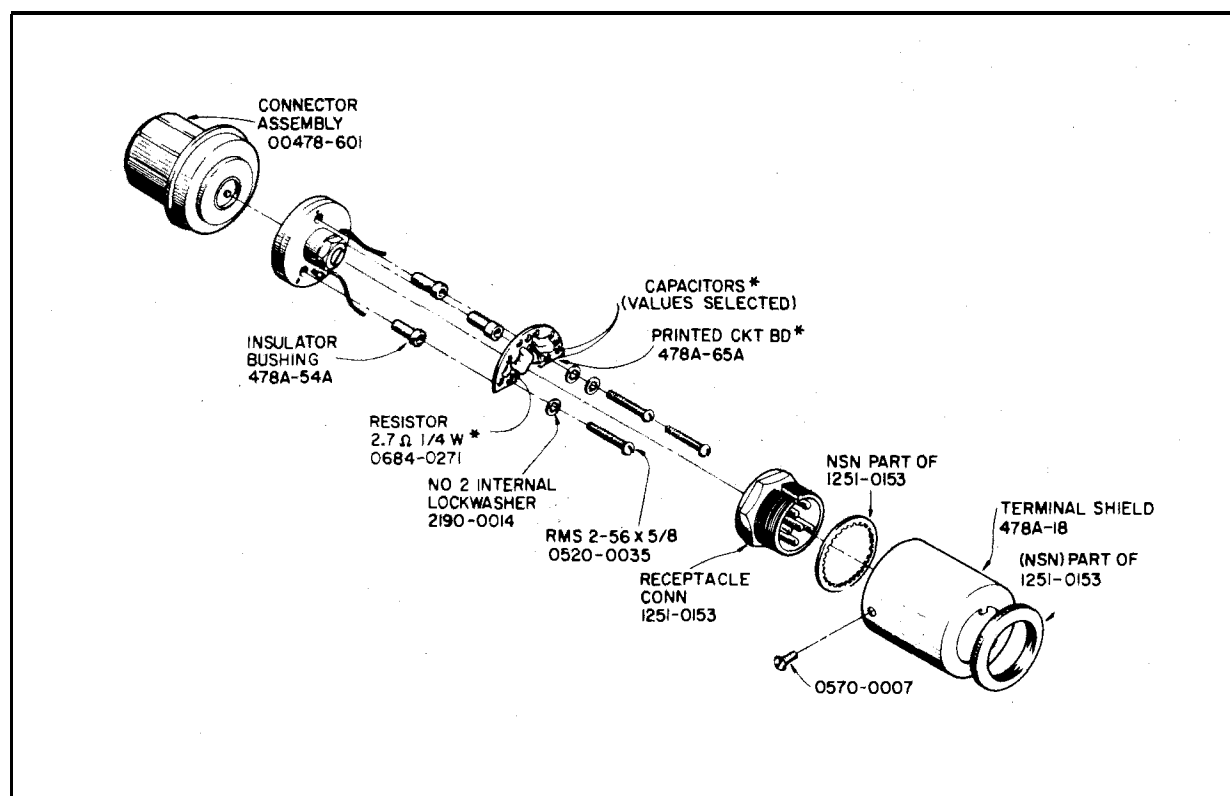

Figure 9. Model 478A Thermistor Mount Assembly
- a. Remove three 2-56 x 3.16 screws holding terminal shield (Figure 9). Move terminal shield aside.